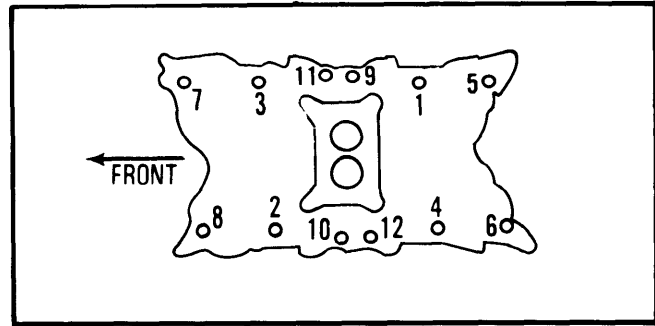

Fig. 2 Tightening Sequence for Cylinder Head
2) Install cylinder heads and bolts. Tighten head bolts in two steps. See *Tightening Specifications*. Tighten bolts in sequence shown in illustration (see Fig. 2). Reverse removal procedure to complete installation.